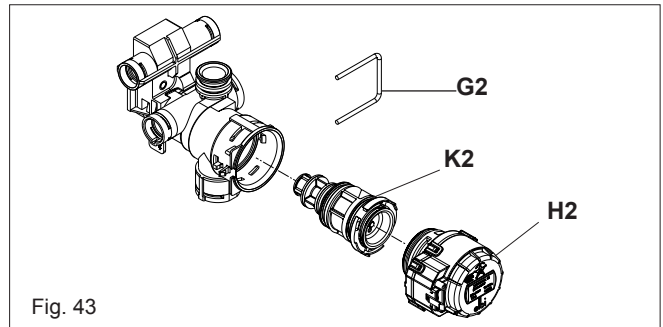

Fig. 43
6.24 VALVE ACTUATOR (fig. 43)
6.25 DIVERTOR VALVE ASSEMBLY (fig. 43)